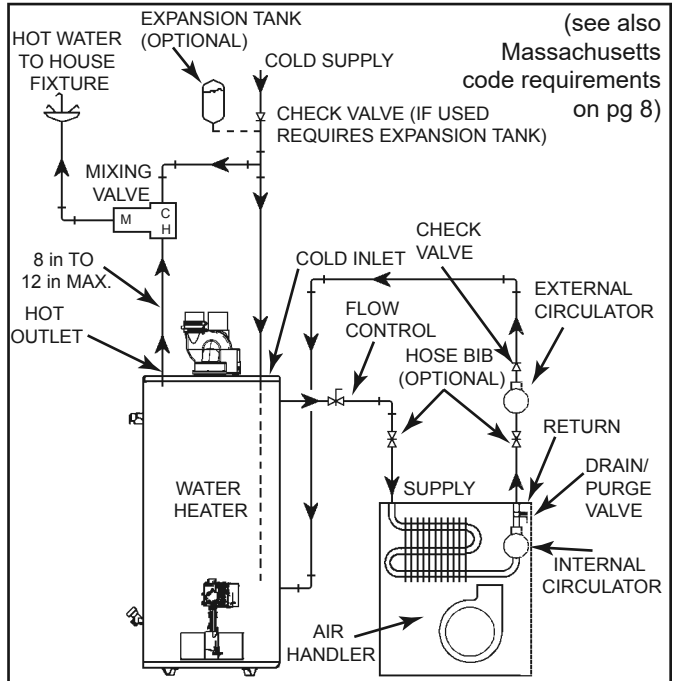
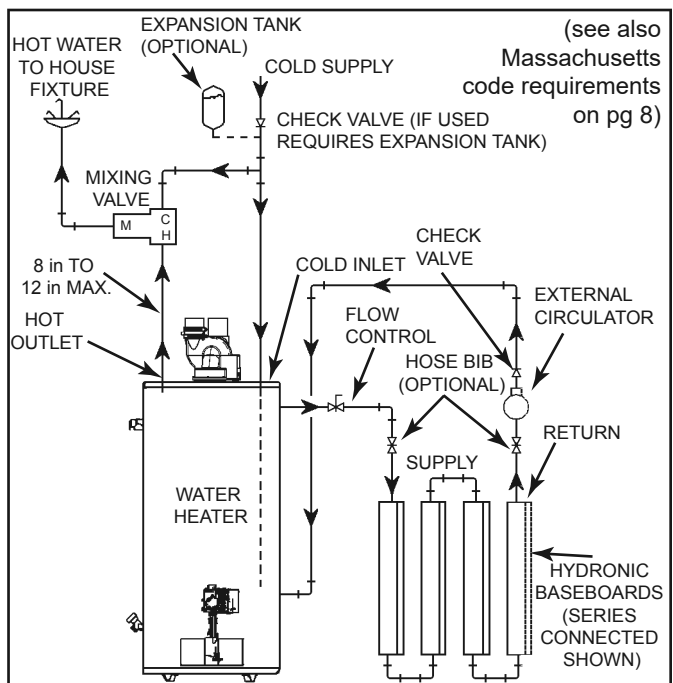

Figure 21.
Figure 22.
- “Combo” Heating Systems require higher water temperatures than other applications. When the system is used to supply water for Combo Heating applications, a means, such as mixing valve, must be installed to temper the water in order to reduce scald hazard potential (see Figure 21 & Figure 22).
- A fan coil/air handler (Figure 21).
- A hydronic baseboard (finned tube) loop/In floor heating (Figure 22).
Figure 21 shows typical attachment of water piping to the water heater. The water heater is equipped with 3/4" NPT water connections.